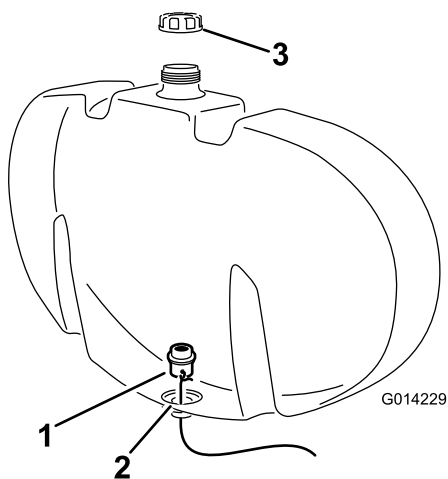

Figure 3
- E. Use the wire to guide the bulkhead fitting to the open hole in the bottom of the tank (Figure 3).